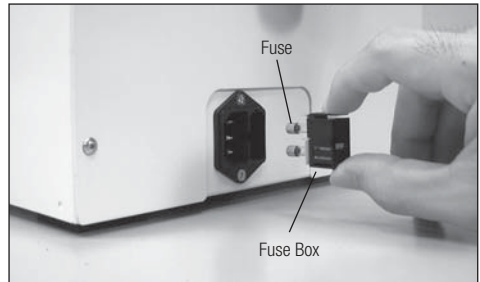

Fig. 36
- 2) Squeezing the upper and lower ratchets of the Fuse Box inward at the same time, pull out and remove the Fuse. (Fig. 36)
- 3) Replace the Fuse with a new recommended Fuse (Refer 3. (1) "Fuse Rating") and push it into the correct position.